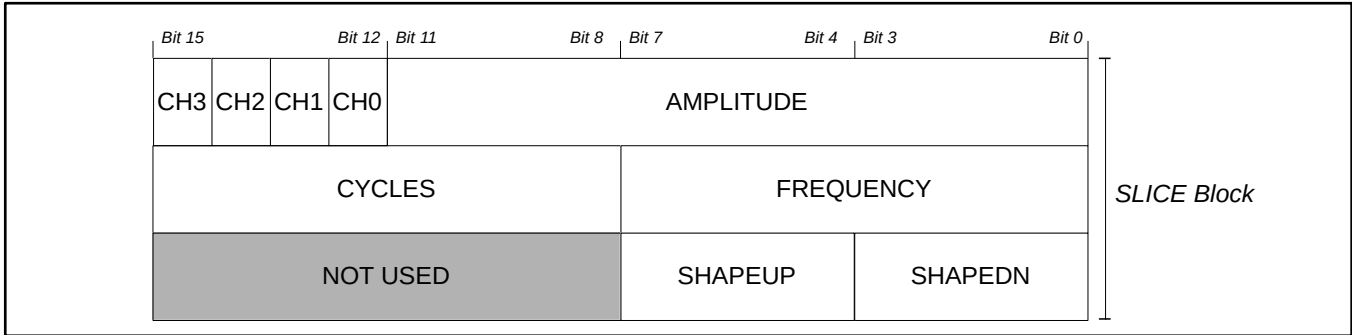
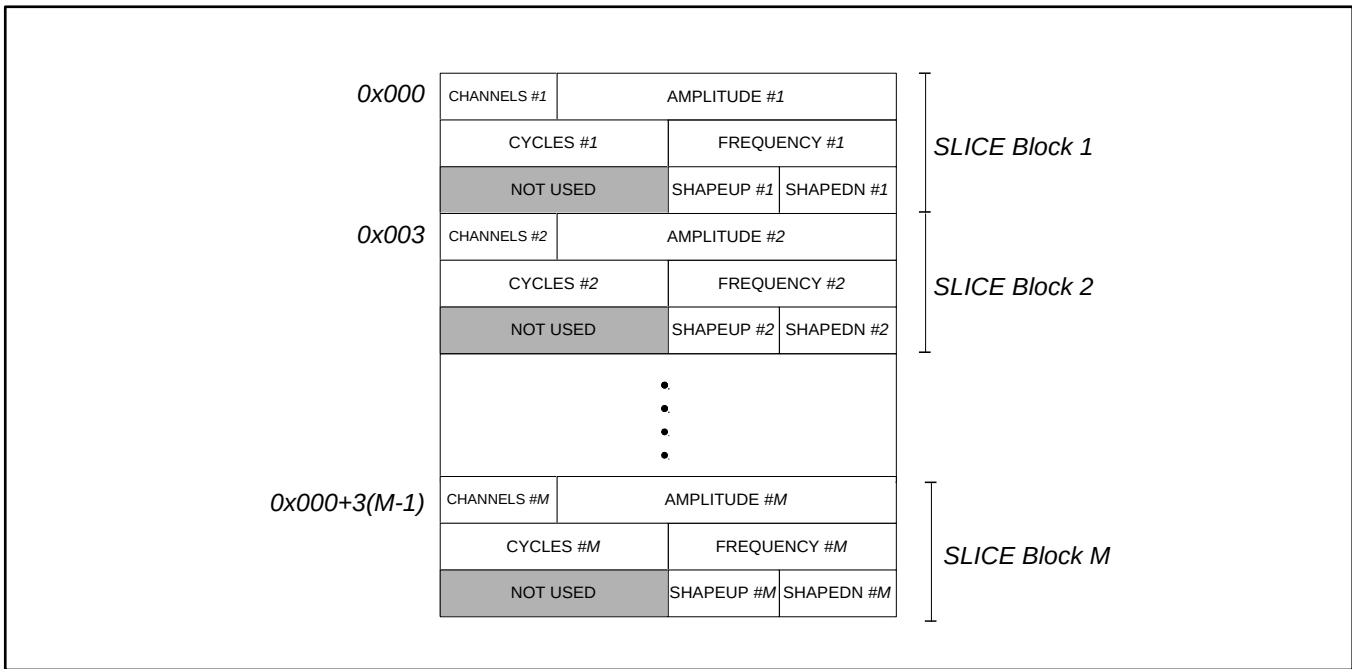
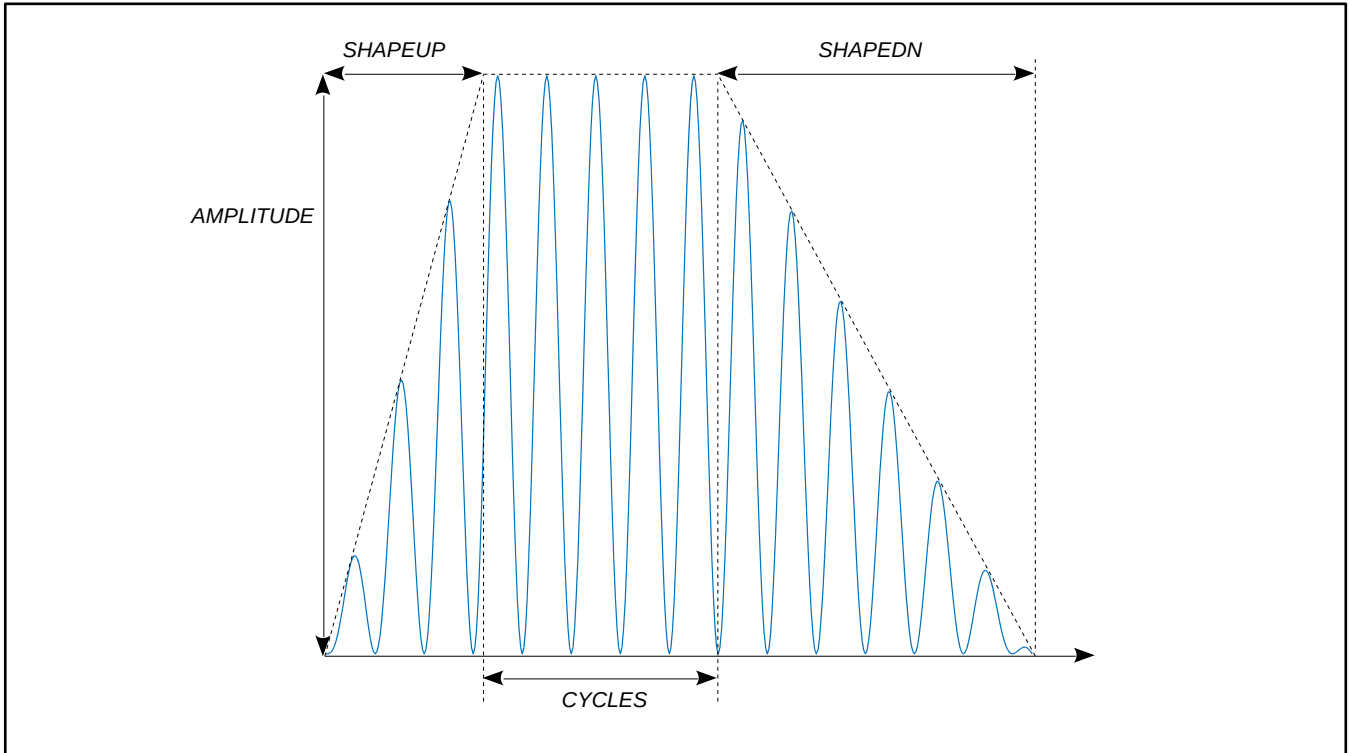

Figure 22: Sine Wave SLICE Block
Figure 23: Example of M SLICE Blocks organized in RAM
Figure 24: Sine wave SLICE parameters illustration
- 1) SLICES, written in the RAM using the RAM ACCESS command. Each SLICE contains a group of parameters used to produce a sine wave of defined amplitude, frequency, and number of cycles. It may also be ramped up and down (as shown in Figure 24). See section 6.7.1.1 for more details.
SLICE blocks in the RAM contains the parameters used to synthesize sine waveforms. Each SLICE block contains three words grouping nine parameters as described in Figure 22 and Table 12. Figure 23 shows an example on how several SLICES can be organized in RAM. Figure 24 illustrates an example of how these parameters shape a SLICE waveform. Many SLICES may be successively played to form more complex waveforms.